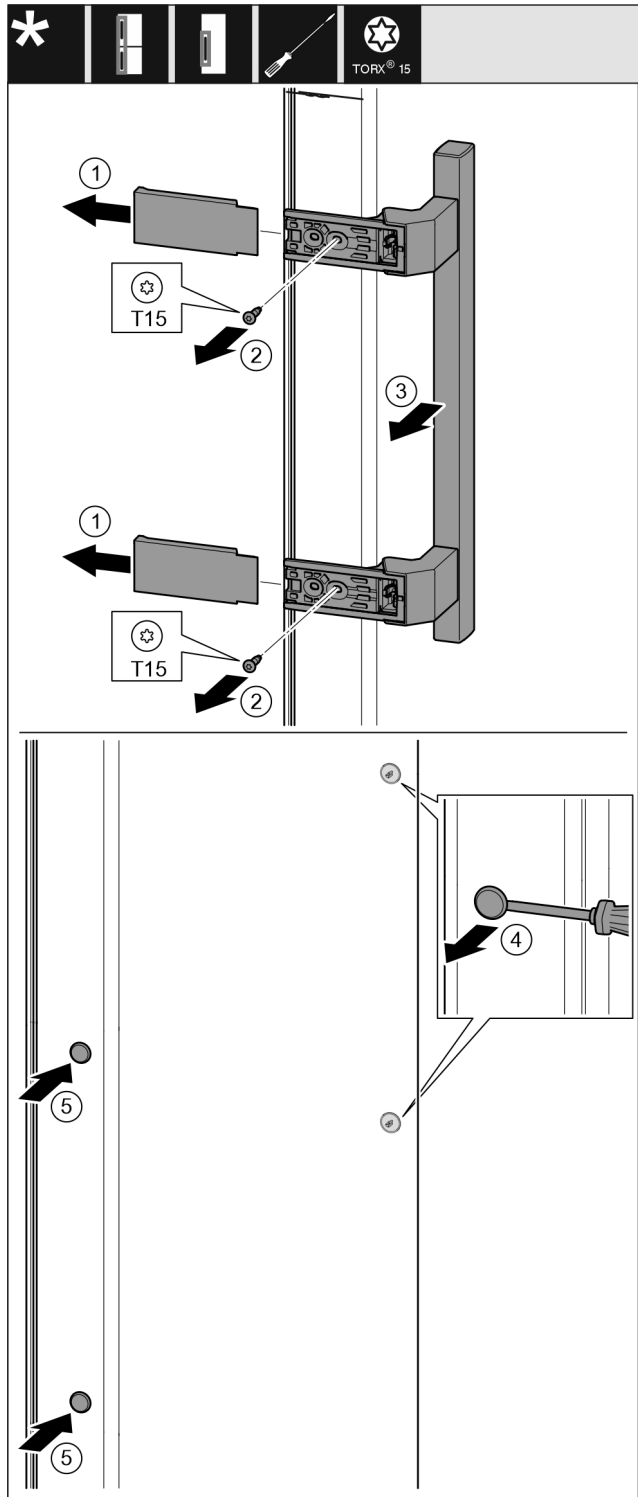

*Fig. 38*
- ▶ Pull out the guide bush: Press the lug with a slotted screwdriver and, at the same time, insert the slotted screwdriver under the guide bush. *Fig. 38 (1, 2)*
- ▶ Slide the guide bush included in the scope of supply to the other side of the housing. *Fig. 38 (3)*